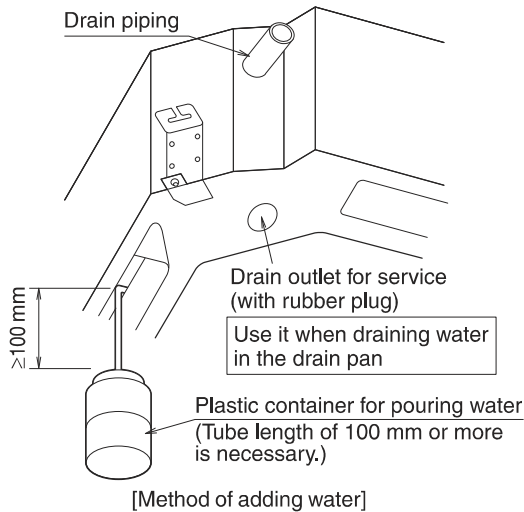

Fig. 18
- Gradually pour 1 liter of water from the air outlet on the left side of the drain socket into the drain pan giving caution to avoid splashing water on the electric components such as drain pump and confirm drainage by operating the indoor unit under cooling mode according to “10. FIELD SETTING AND TEST OPERATION”. (Refer to Fig. 18)
3. Gradually pour 1 liter of water from the air outlet on the left side of the drain socket into the drain pan giving caution to avoid splashing water on the electric components such as drain pump. **(Refer to Fig. 18)**